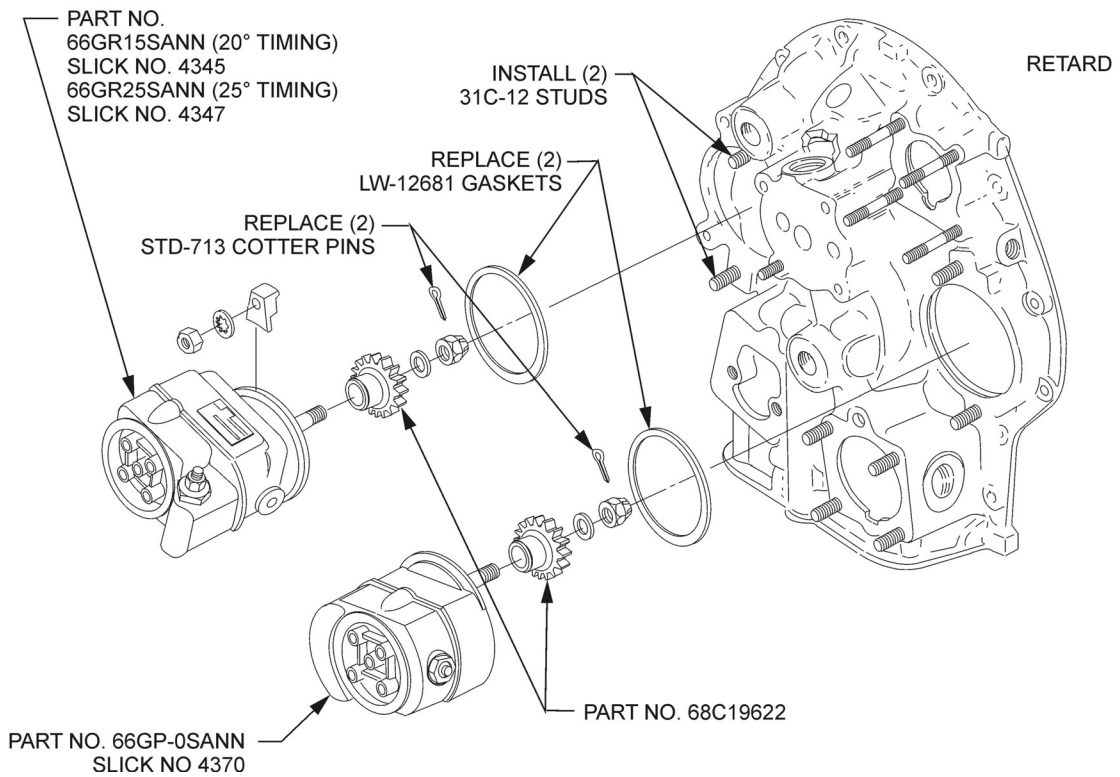

Figure 2 (Installation)
3. Select the correct replacement magneto based on ignition timing (See Figure 2). Install the retard breaker magneto and P/N 68C19622 gear as shown in Figure 2. Install a new gasket, P/N LW-12681, between the magneto and the accessory housing.